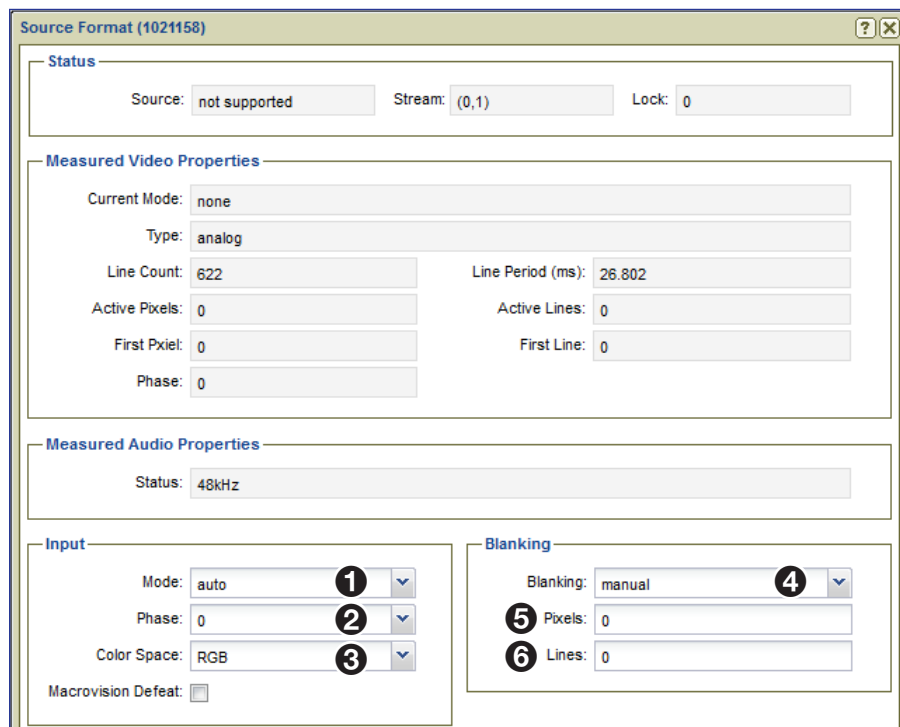

Figure 128. Source Format Menu
9. Select **auto** from the **Mode** drop-down list (see figure 128, ❶).
10. Select **0** from the **Phase** drop-down list (see figure 128, ❷).
11. Use the **Color Space** drop-down list to select the option that matches the connected source (❸).
12. Select **manual** from the **Blanking** drop-down list (see **Figure 128**, ④ on the previous page).
13. Enter 0 in the **Pixels** field (⑤).
14. Enter 0 in the **Lines** field (⑥).